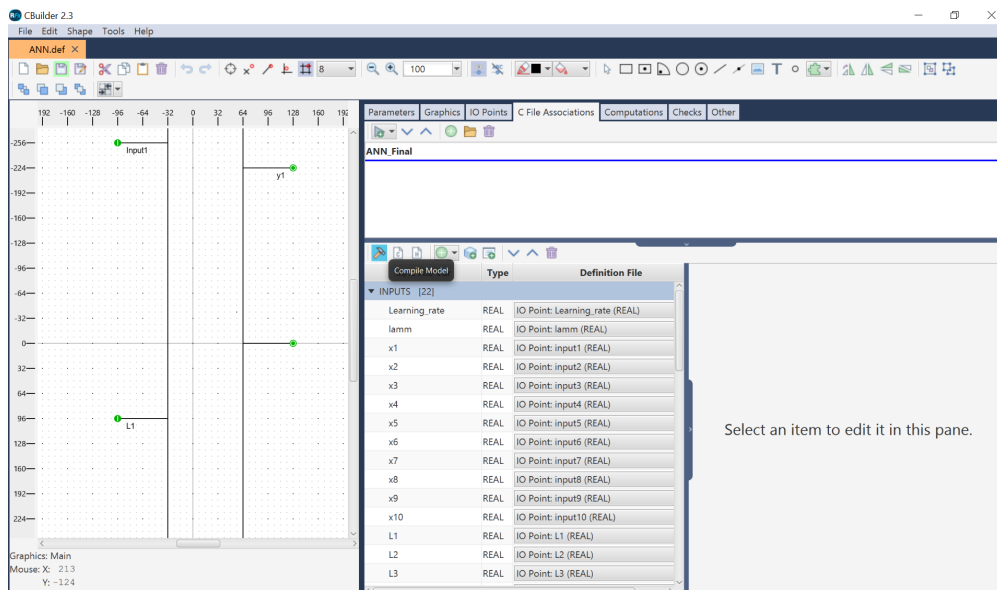

Figure 1.11: Compile model in RSCAD.
5. Open C File Associations tab and select to open the folder, where you should search for your .c and .h files placed in .\RSCAD\RTDS_USER_FX\BIN\CMODEL_SOURCE folder. Then, compile the codes as depicted in Fig. 1.11.